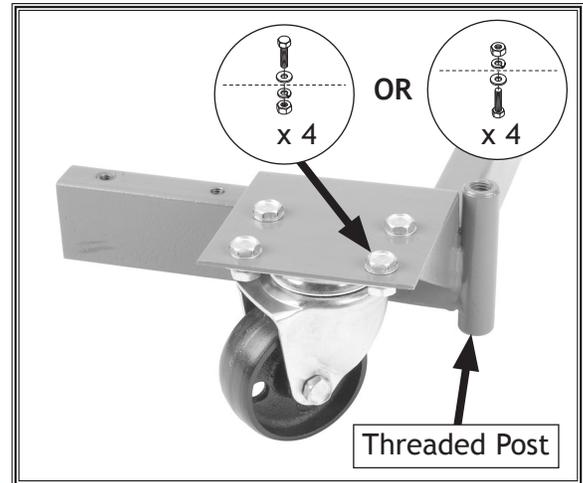

Figure 5. Swivel caster mounted to corner bracket.
1. Mount each swivel caster to a corner bracket that has the four hole pattern and threaded posts using (4) M8-1.25 x 16 hex bolts, 8mm flat washers, 8mm lock washers, and M8-1.25 hex nuts, as shown in **Figure 5**.